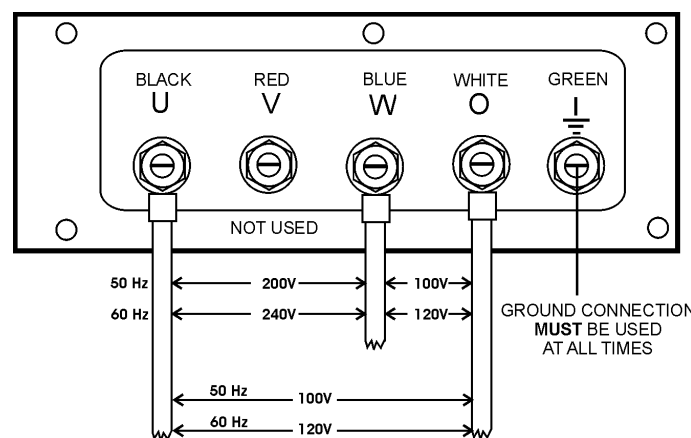

Figure 30. Output Terminal Lugs Single-Phase (50/60 Hz) Connections
2. Connect the load wires to the **Output Terminal Lugs** as shown in Figure 30.